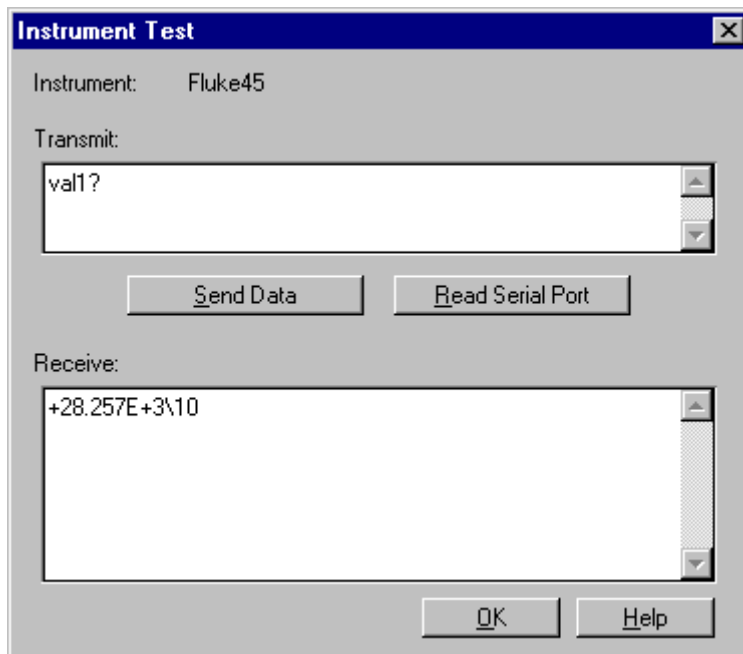

Figure 2-2. Testing the Fluke 45
1. Press the **Test** button to display the Instrument Test dialog box, shown in Figure 2-2. From this dialog box, you can send commands to the instrument and view its response.
The Serial Instrument Test dialog box should appear as shown in Figure 2-2.